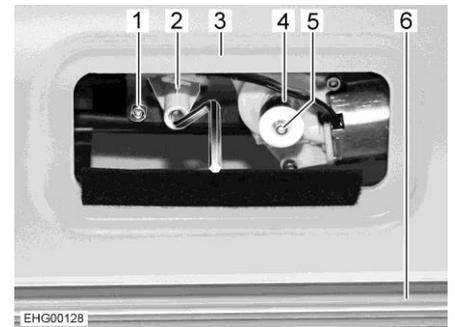

Fig. 47 Access to the motor
- Remove removable panel above the windscreen panelling (Fig. 47,3). The motor (Fig. 47,1) is accessible.
- Remove plastic sleeve (Fig. 47,4).
- Press and hold white securing button (Fig. 47,5).
- Position crank (Fig. 47,2) on crank socket.
- Move Roman shade (Fig. 47,6) upwards or downwards with the crank.
- If both holding bars have moved out of the visible range: pull securing button (Fig. 47,5) out again.